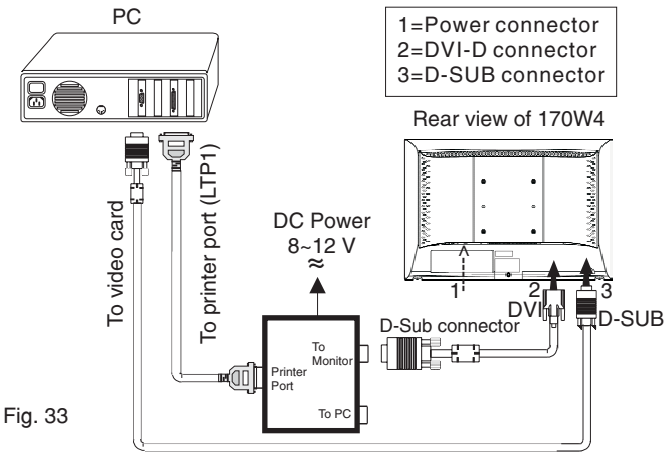

Fig. 33
Step 1: Connecting all cables and alignment box as shown in Fig. 33.